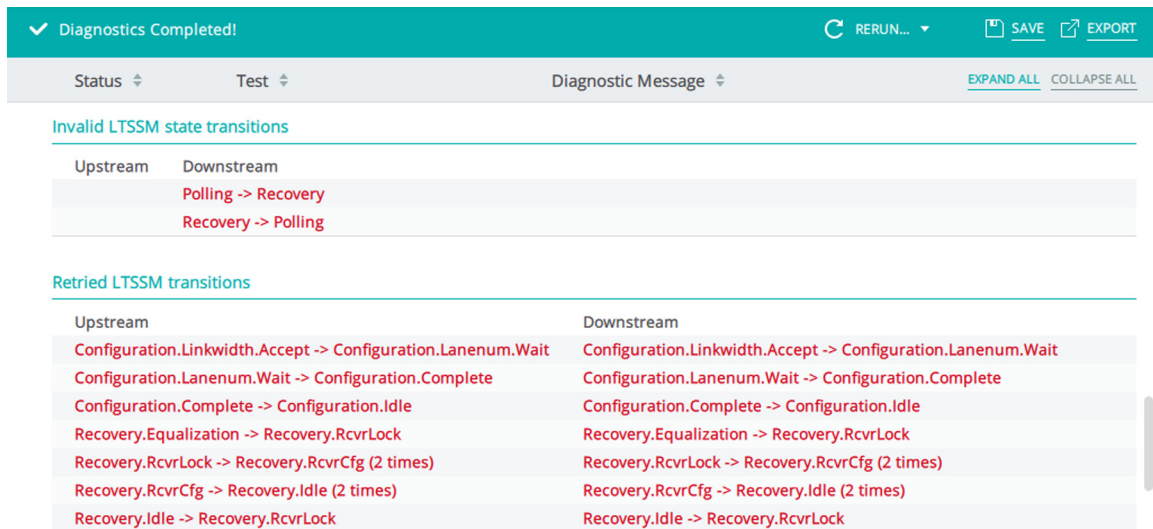

Figure 5.7: Link Establishment: Warning Message -> Retried LTSSM Transitions
- Invalid LTSSM State Transitions and Retried LTSSM Transitions (see Figure 5.7).